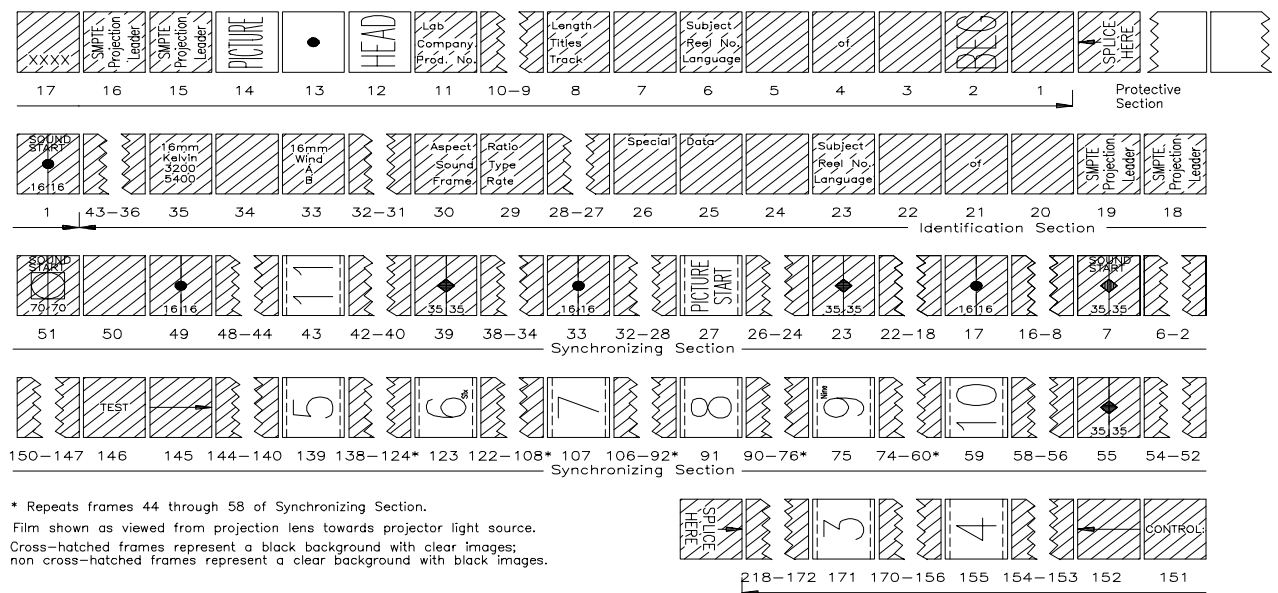

Figure 1 – Head leader
4.2 Information appearing in the leader which is printed lengthwise (in the direction of film travel) shall read from left to right when viewed from the projection lens towards the projector light source with the head end of the film at the right. Information appearing in the leader which is printed upright shall read normally when the reel is uppermost and the head of the film hangs down ready for threading (see figures 1 and 5 for orientation of information).
5 Head leader (see figure 1)
One additional frame shall follow with the inverted upright words "SPICE HERE" as shown in figure 1, and an arrow pointing to a clear frameline between frame 218 and this frame to indicate where the synchronizing section joins the picture section. The clear letters should be at least 1/8 in (3.2 mm) high printed on a black background.